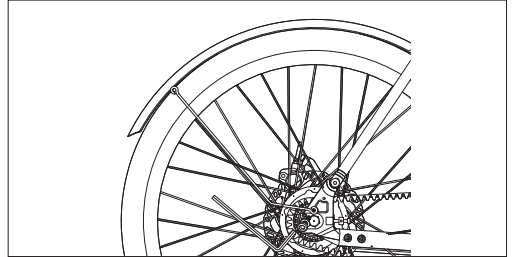

Figure 6-2
- d. After fastening the upper bracket, use a 4 mm Allen key to remove the 2 screws at the dropout. Then, align the legs of the front fender with the installation holes, as shown in **Figures 6-2 and 6-3**, and then re-tighten the screws.